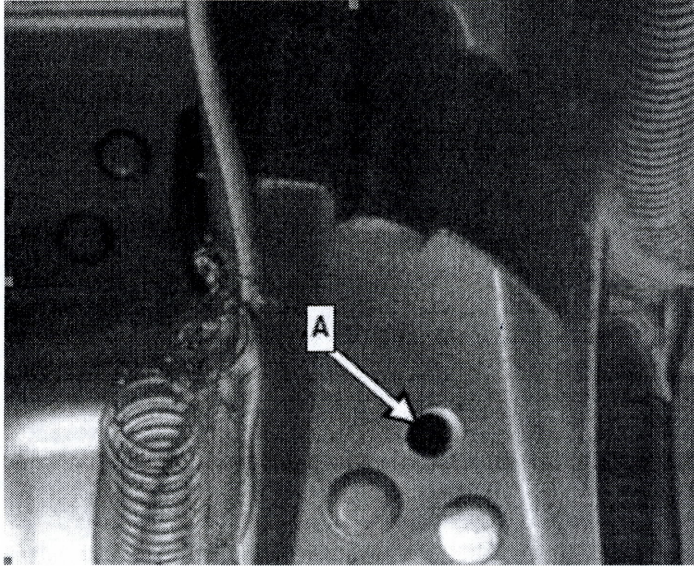

Figure 3
4. Drill rivet hole (A, Figure 3) at punch mark with 6.7 mm drill bit.
5. Install rivet into hole (A, Figure 3) with 6.5X12.5 mm rivet.